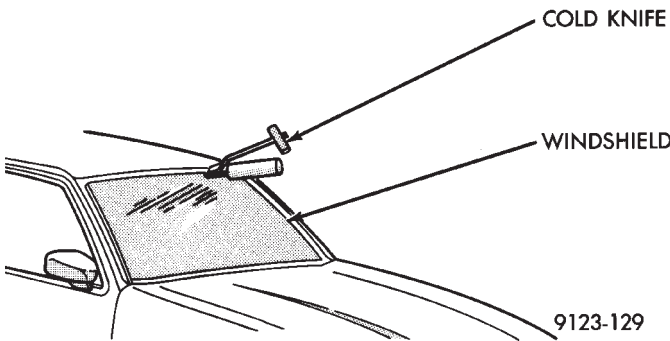

Fig. 2 Cut Urethane Around Windshield
- (6) Cut urethane bonding from around windshield using a suitable sharp cold knife. A pneumatic cutting device can be used if available. (Fig. 2)
- (7) Separate windshield from vehicle.